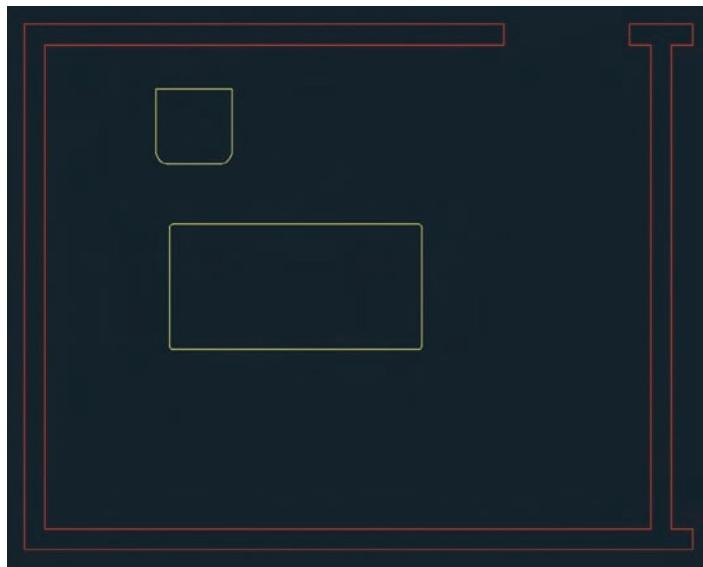

FIGURE 7.2 Using Fillet to round two corners
5. Press the spacebar to repeat the FILLET command. Click the bottom and right edges to create another arc. Figure 7.2 shows the result.